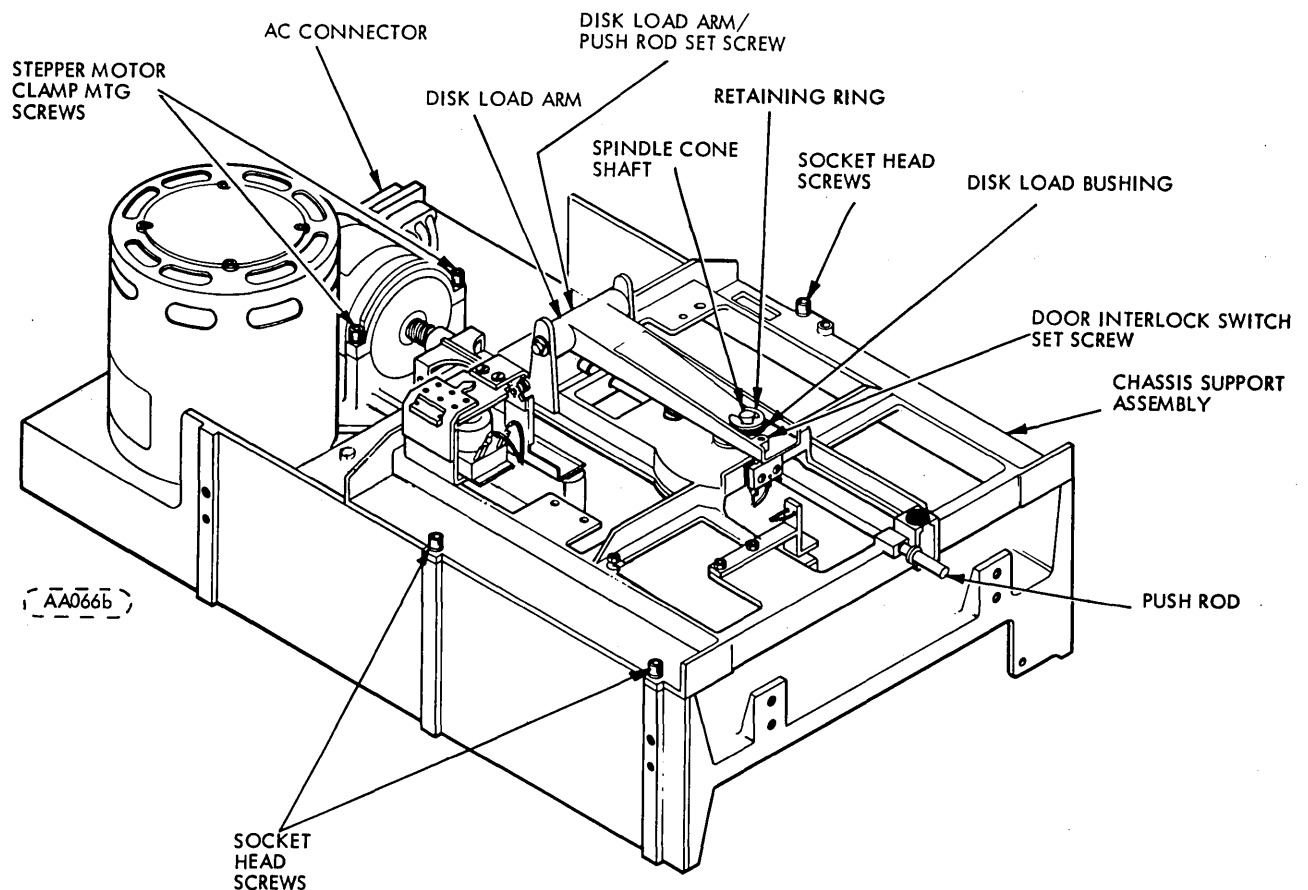
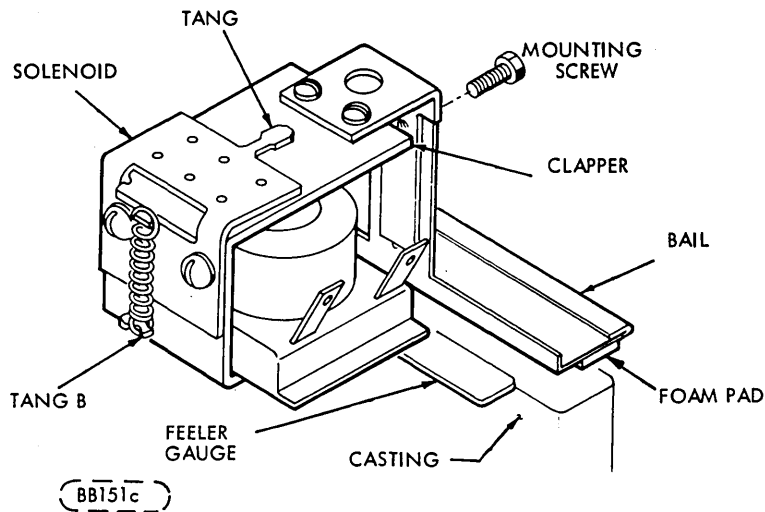

Figure 6-9. Chassis Base Assembly
Figure 6-10. Disk Load Solenoid
- h. If not in alignment, loosen the stepper motor clamp mounting screws to where a gap exists between the clamp and casting (see Figure 6-9) and slowly rotate the stepper motor to adjust the amplitude until the amplitude of both lobes is the same, that is, the difference between the bottoms of both lobes is less than 5mV.
This procedure must be performed whenever chassis support (Figure 6-9) is removed and replaced.
- a. With front panel door closed, verify that a gap exists between the retaining ring and the disk load bushing of approximately 0.030 inch (0.762mm) (refer to Fig. 6-9 ). Perform steps b and c if out of adjustment.
- c. Adjust disk load arm set screw (Figure 6-9 ) until gap is approximately 0.030 in. (0.762mm), with door closed.
- b. With door closed, adjust set-screw at end of disk load arm (Figure 6-9) while holding door closed against metal stop. Adjust set-screw until micro-switch is almost adjusted flush to top of switch case. This ensures that as the nylon tips on the push-rod wear down, the switch will still close.
- c. Loosen mounting screw on bail (Figure 6-10).
- a. Loosen chassis support assembly (Figure 6-9 ).
- f. Secure socket head screws (Figure 6-9 ) and again recheck steps "c" through "e".
- b. To adjust, loosen the two hex-head screws holding the sensor mount in place. With the front panel door open, push down on the disk load arm (Figure 6-9 ) to insure that the disk is in the loaded position (Figure 6-10). At the same time, grasp the end of the envelope and move from side-to-side, and forward and backward while observing the WRITE PROTECT signal at U30 pin 14/R82-East. Adjust the mount until the WRITE PROTECT signal is present for any position of the envelope.
- a. Place the tapered end of a flat head screw driver between Tang A and solenoid clapper. (See Figure 6-10).